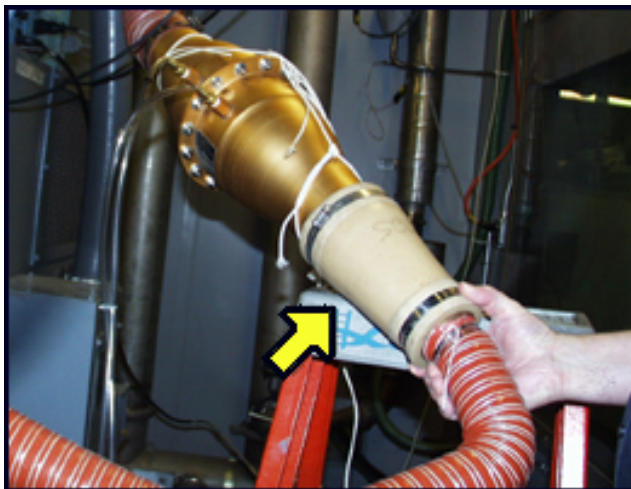

Figure 4
- 105 Locate the air-flow arrow indicator on the Verification LFE. Attach the Verification LFE to the extension hose ensuring that arrow points toward the engine. See the yellow arrow in Figure 4.
- 106 Attach the rubber boot that you disconnected from the LFE in Step 102 to the open end of the Verification LFE. See the arrow in Figure 4.